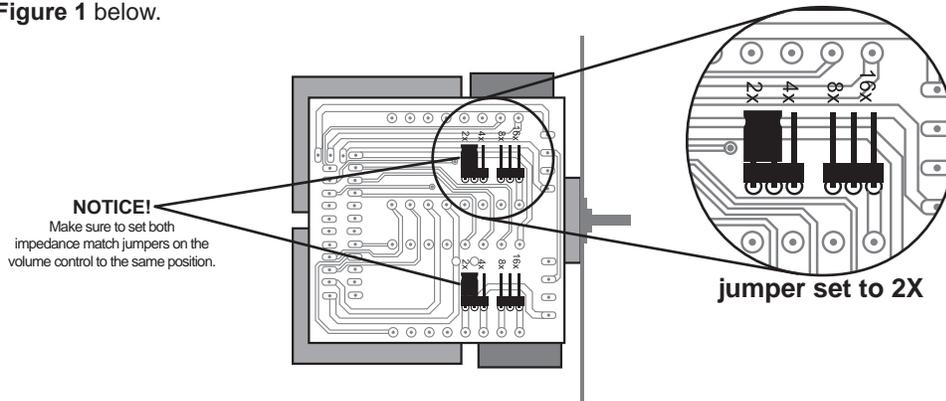

Figure 1
- 4.) Set the impedance match jumpers on all of the volume controls in the system to the same position (2X, 4X, 8X or 16X). See **Figure 1** below.